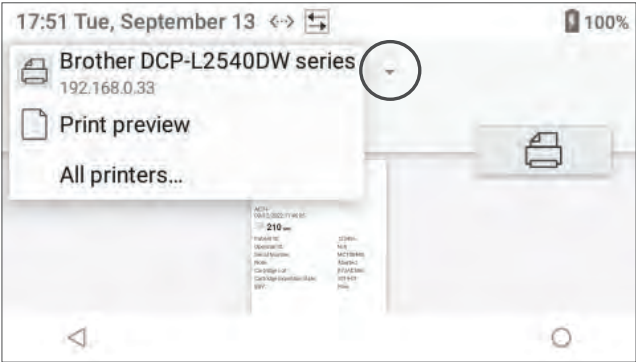

Figure 79: Available Printers
- 2 Select the drop-down list (▾) to display the available printers on the network (Figure 79).